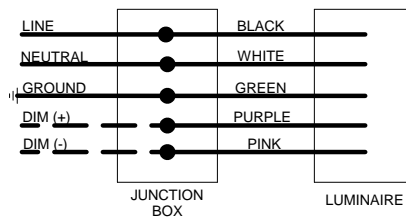
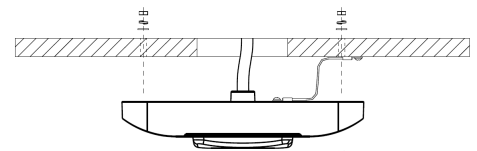

FIGURE 1
FIGURE 4
- Connect the wires as shown (Fig. 1) and then secure fixture to the ceiling with the screws and washers as shown (Fig. 4).